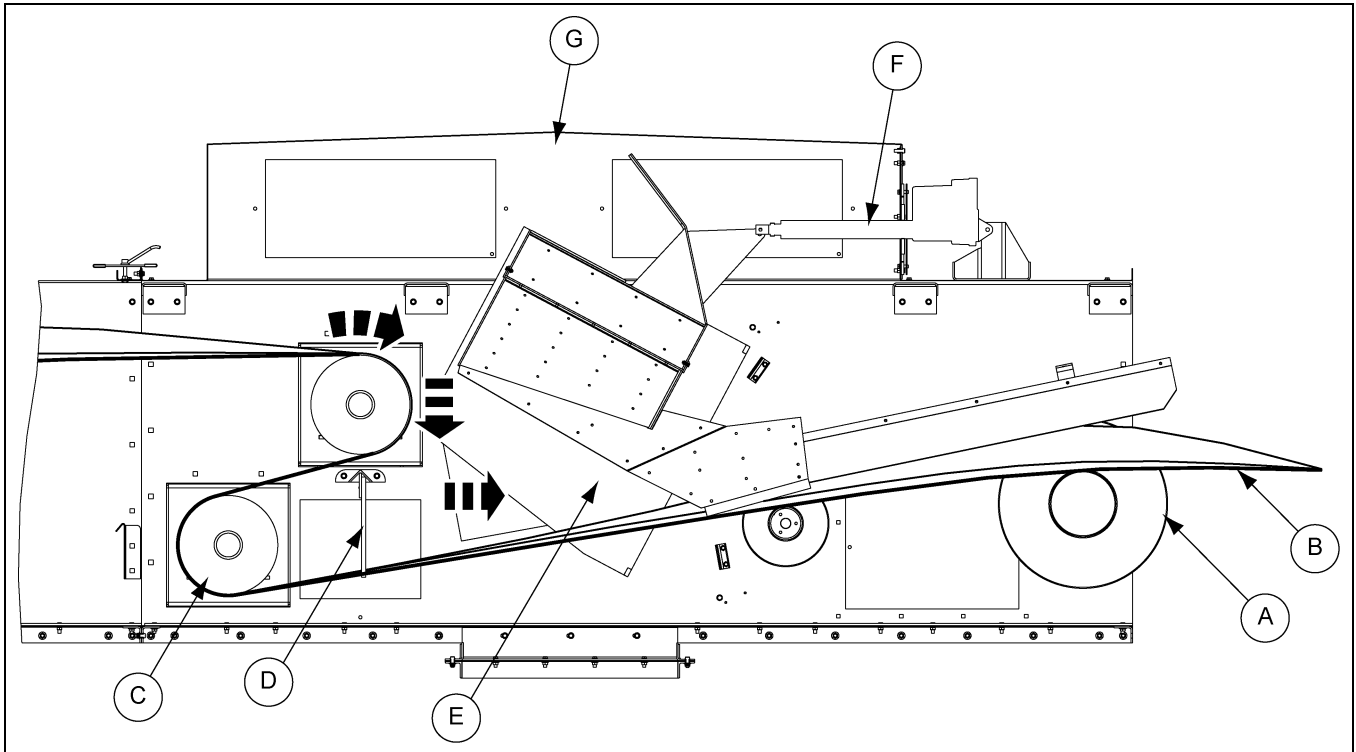

Figure 4A
2. The tripper is activated manually or electrically operated using an actuator (F).
3. When the tripper is in normal position, the grain flow is normal as it passes from the top pulley under the diverter (E) and down to the belt again for continuous flow to the discharge point.
4. The belt wiper (D) assembly prevent the grain to flow backwards. (See Figure 4A.)